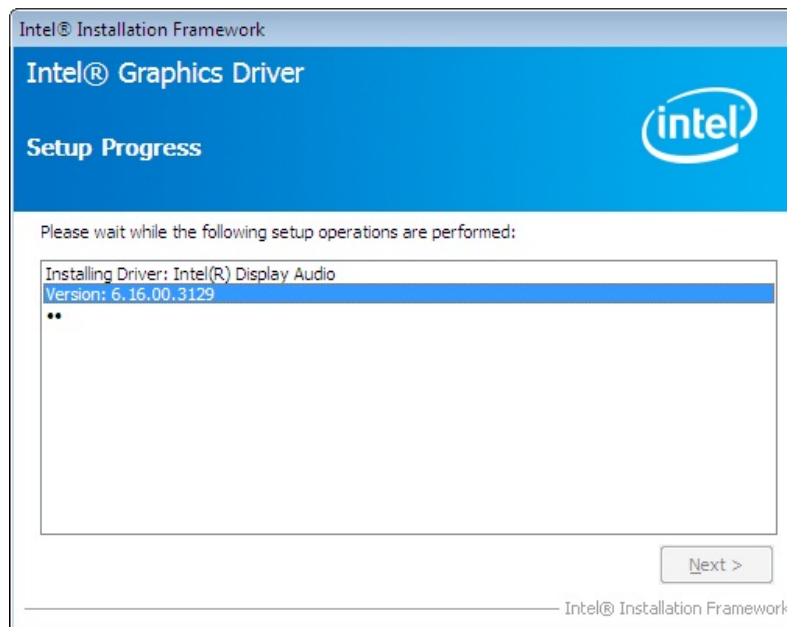

Figure 6-12: VGA Driver Setup Progress
Step 11: **Setup Progress** is performed as shown in **Figure 6-12**.